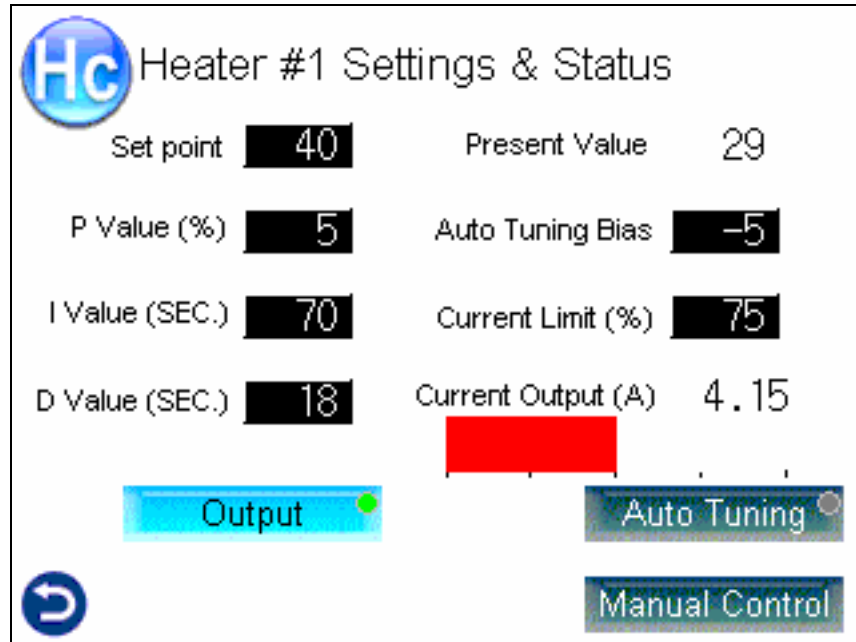

Figure 3-21. Display Menu
1. Go to **Display Menu** (Figure 3-21) by pressing .